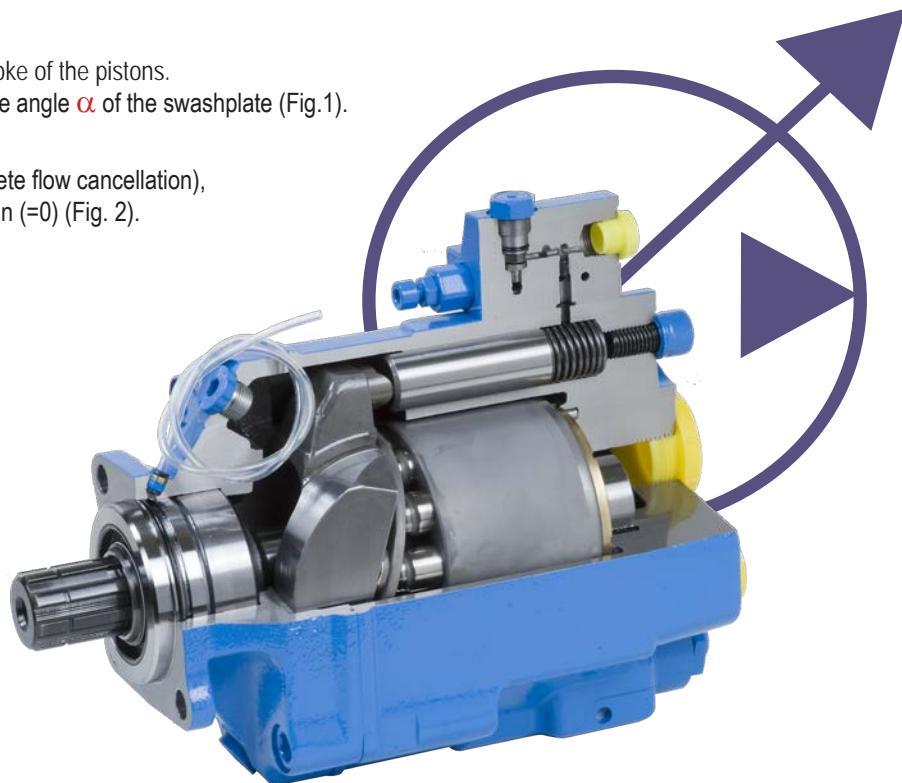

Figure 1 - Maximum displacement
- The displacement of the pump is proportional to the stroke of the pistons. Displacement – and thus flow - is varied by changing the angle α of the swashplate (Fig.1).
- To change displacement from maximum to zero (complete flow cancellation), the swashplate angle goes from α max (Fig. 1) to α min (=0) (Fig. 2).